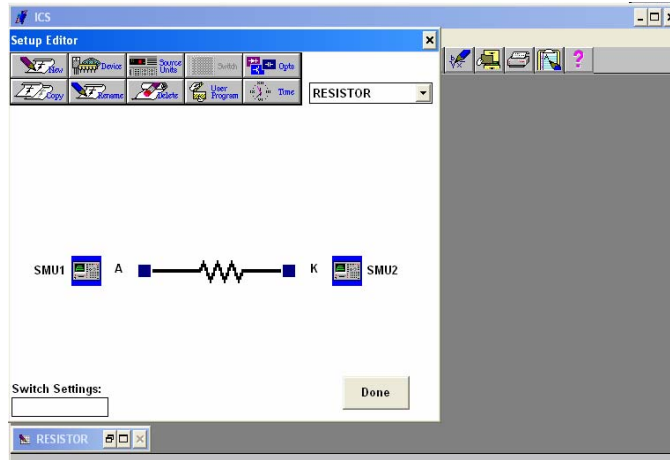

Fig. 5: SMUs assigned to the resistor terminals
- Let's assign **SMU1** to the **A** terminal of the resistor, and **SMU2** to the **K** terminal of the resistor. Do this by highlighting **SMU1** in the **Source Units** dialog box, then clicking on terminal **A**. Similarly, assign **SMU2** to terminal **K**. Click **Done** on the **Source Units** dialog box after you have placed **SMU1** and **SMU2**. Your window should now look like Figure 5.